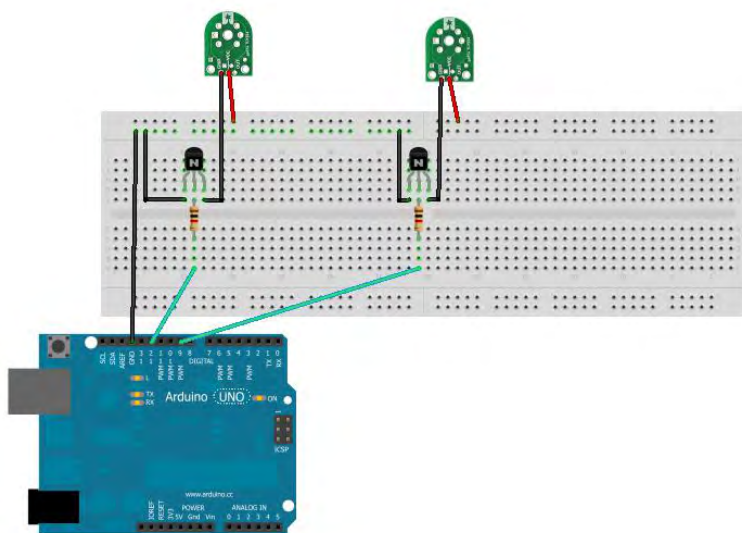

Figure 2-7. *Step four.*
4. Connect the +5 (VCC) sensor pins to the breadboard's power rail (Figure 2-7). Don't worry; we're going to add a power supply later.